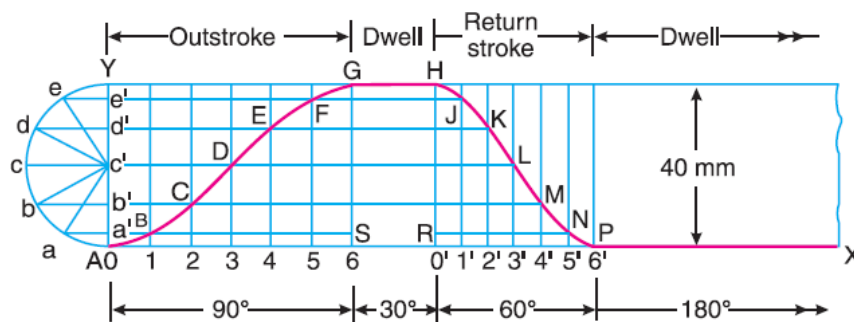

Figure 1
First of all, the displacement diagram, as shown in Figure 1, is drawn as discussed in the following steps:
2. Draw vertical line $AY = 40 \text{ mm}$ to represent the cam lift or stroke of the follower and complete the rectangle as shown in Figure 1.
6. Join the points $A, B, C \dots$ etc. with a smooth curve as shown in Figure 1. This is the required displacement diagram.